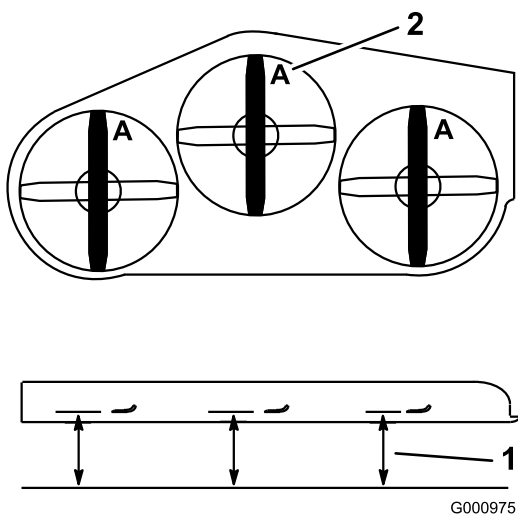

Figure 85
1. Rotate the blades until the ends face forward and backward (Figure 85). Measure from a level surface to the cutting edge, position A, of the blades (Figure 85). Note this dimension.